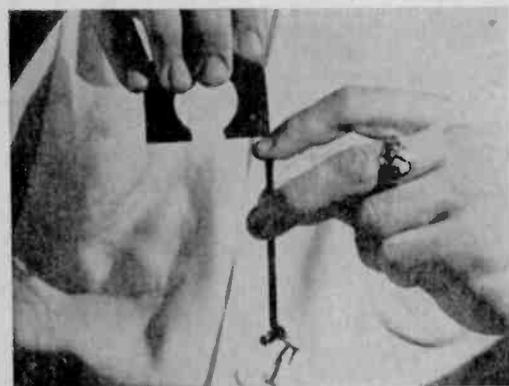

Fig. 9: Magnet held near soft iron or steel produces temporary magnetism, even though not touching it.
**Held Near a Piece of Soft Iron or Steel**, a magnet can produce temporary magnetism in the material, even though it doesn't touch it. Soften the steel in a large nail by heating it to redness and then letting it cool slowly. You can now magnetize this nail so that it will pick up tacks (Fig. 9) merely by holding a pole of the magnet above a finger that rests on the nail head. Move the nail slowly away from the magnet and the tacks will fall off.